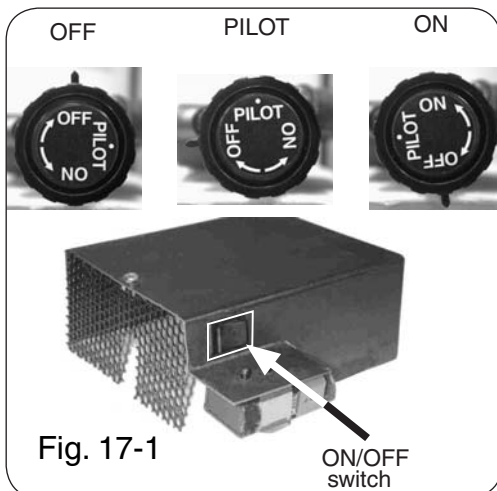

Fig. 17-1
1. Turn the burner control knob (Fig. 17-1) on the burner control valve assembly on the side of the burner pan counterclockwise ↺ so that the text on the top of the knob changes from **OFF** to **PILOT**. (Only pilot gas will flow when the knob is pushed in.)
If you do not plan on using your pan burner for an extended period, you may elect to extinguish the pilot. To do this, rotate the burner control knob to the **OFF** position (Fig. 17-1).